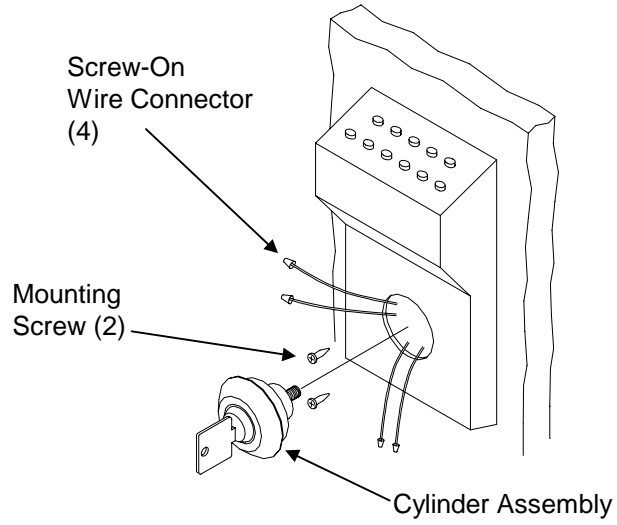

Figure 8 OMNILOCK Wall Mount System
- Step 1 Insert the key into the Cylinder Assembly and rotate it counterclockwise until the Cylinder Assembly can be removed from the Module (Figure 8).